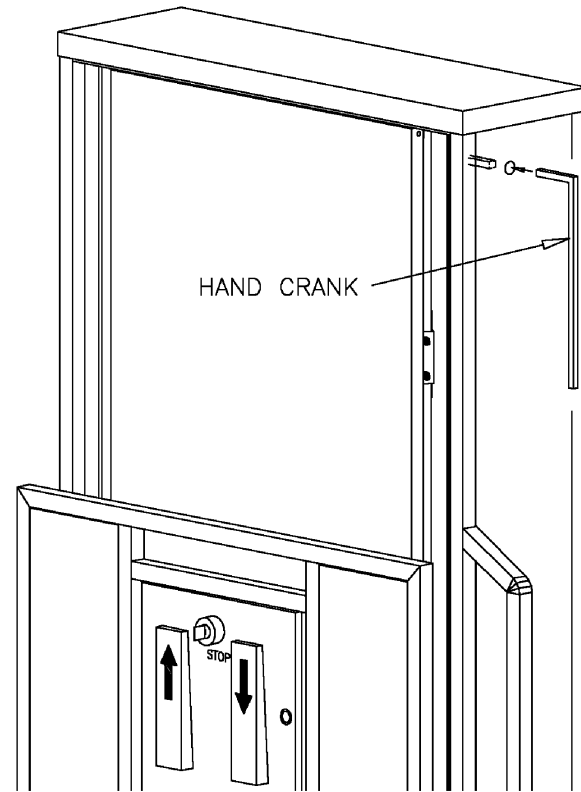

Figure 2. Manual crank.
- Insert the square end of the Hand Crank Tool through the access hole at the upper right side of the tower (See Figure 2).